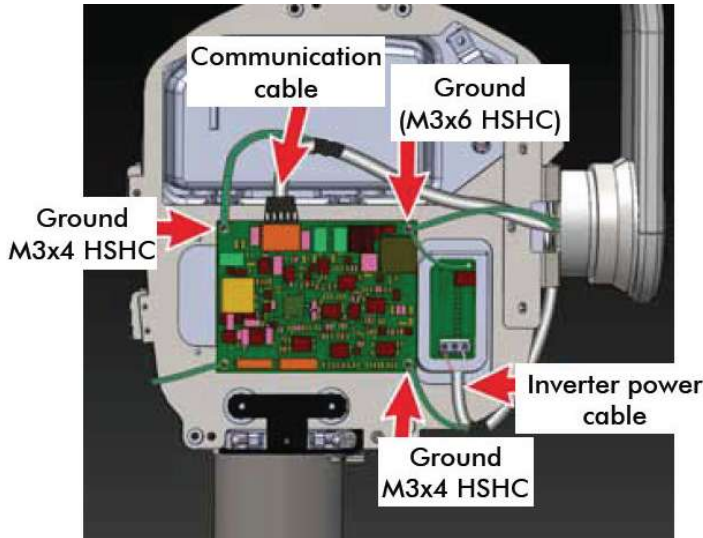

Figure 90
- Press the connector locking tab and pull the cable connector (communication cable) connected to J4 connector of the control board as shown in the Figure 90 .
- Disconnect the INV power cable from the sealing board 3 pin connector -pins 1 & 3 as shown in the Figure 90 (hold the connector firmly by hand while removing) using Jewel screw driver.
- Remove the screws used for GND wire connections for both cables at 3 corners of the Control board using 2.5mm allen key as shown in Figure 90 and put back the screws in its location.
- Route the INV power cable as shown in the Figure 90 and connect it to the sealing board 3 pin connector (Pin 1 & 3). Hold the connector firmly while tightening the terminal screws. Using a 2.5mm allen key connect the GND ring terminal of the INV cable to the nearest control board fixing screw(M3x4 Hex. socket head cap) as shown in the Figure 90 .
- Route the communication cable and connect it to the J4 connector of the control board as shown in Figure 90 and using a 2.5mm allen key connect the GND ring terminal of the communication cable to the nearest control board fixing screw(M3x4 Hex. socket head cap) as shown in the Figure 90 .
- Fix the scissor-arm grounding cable on the control board along with sealing board grounding cable with M3X6 Hex. Socket Head cap screw using 2.5mm Allen key as shown in Figure 90 .